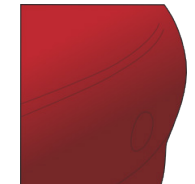

Figure 18
- › The application is complete. (FIG. 18)
! In the case of HX30000, take particular care when heating the stretched film (FIG. 13) to (FIG. 18). The heat gun's position must not be perpendicular to the film's surface. Incline the heat gun so as to heat a larger area. Keep the heat gun constantly moving. Never heat a reduced surface area over a prolonged period of time.